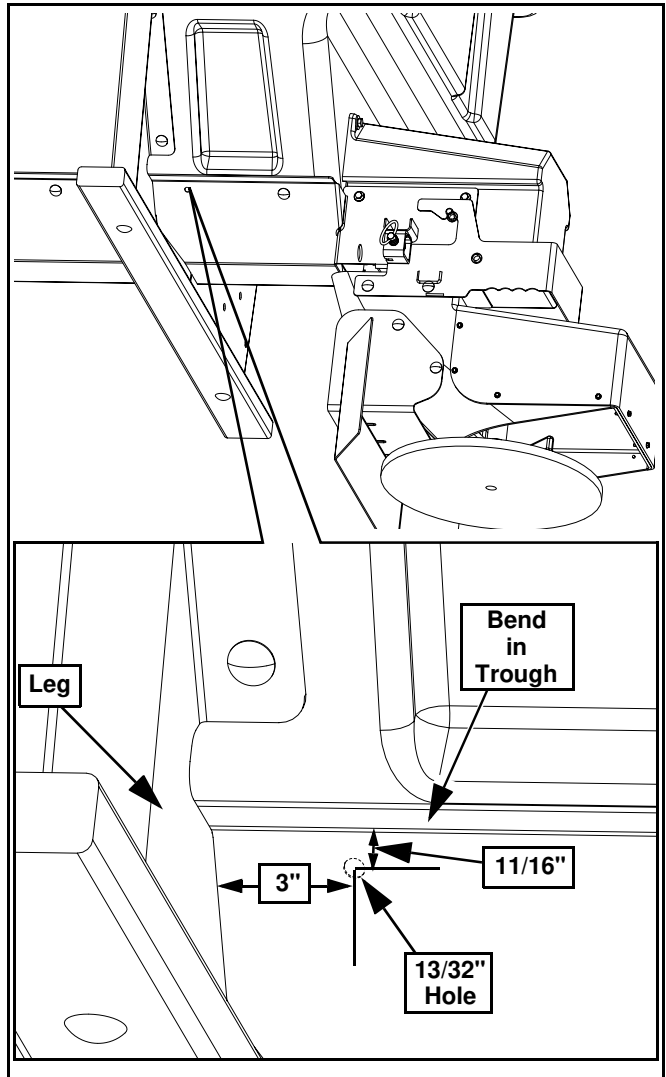

Figure 1
2. (If installing on RVB series skip to step 4.) Locate and drill a 13/32" hole as shown in Figure 1 3" from leg and 11/16" from bend in trough. (See Figure 1)